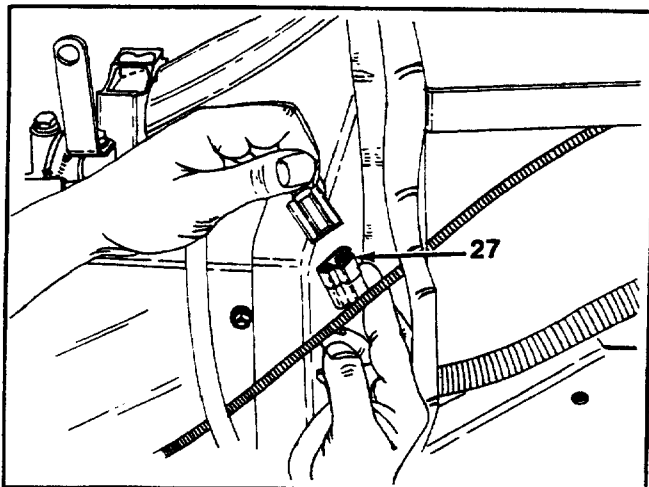

FIGURE 18.
21. Disconnect the main wire harness from engine. See figure 18.